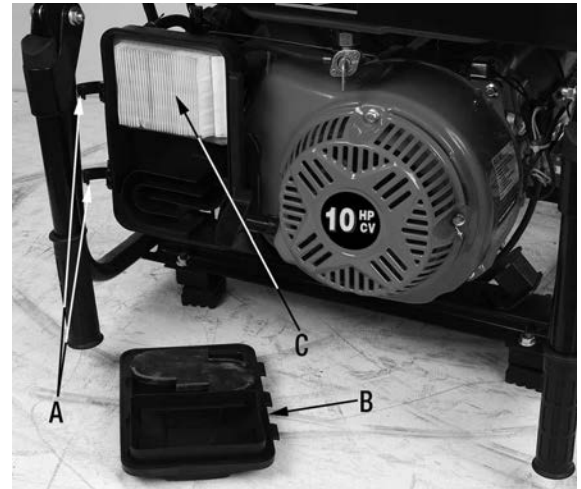

Figure 3
- 1) Snap the two side clips (A) Fig.3 backwards and remove the air cleaner cover (B).
- 2) Remove the air cleaner filter (C), shake off debris and dust, blow with air if needed.